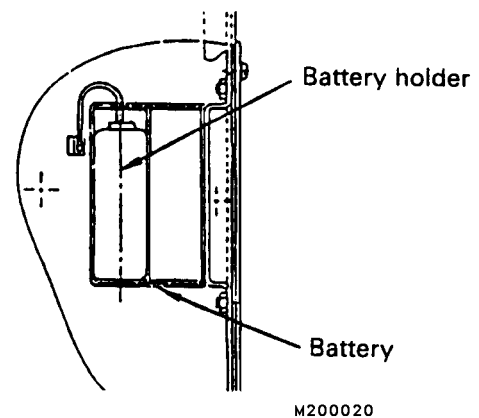

FIGURE 60-9. BATTERY INSTALLATION
5. Grasp the wires coming from the battery and pull outward. By pulling perpendicular from the board, it will disconnect the connector from the board and pull the battery out of its holder simultaneously (Figure 60-9).